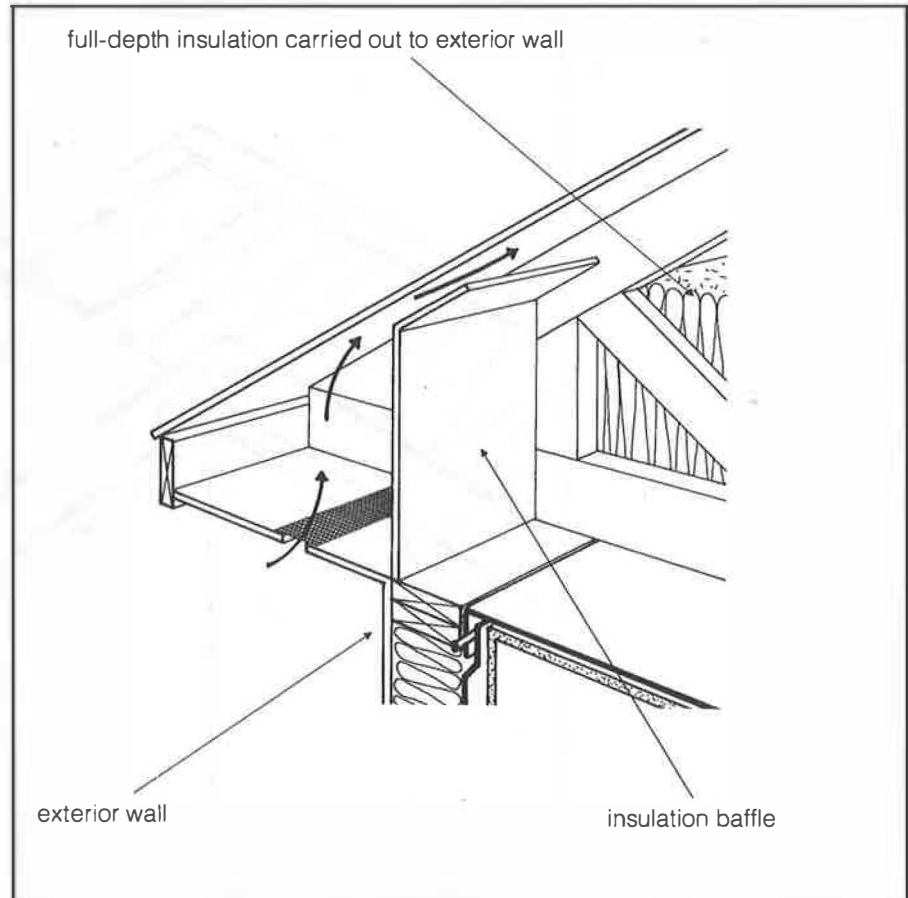

Fig. 14. Raised heel truss
- Ensure that the ceiling or wall joint is insulated but that it can still provide adequate attic ventilation. This can be done with baffles and a raised heel truss (*fig. 14*).